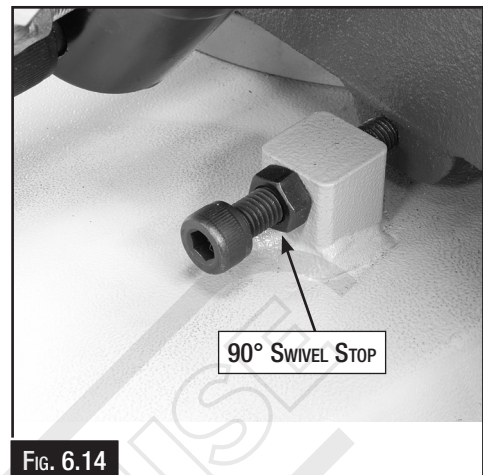

FIG. 6.14
4. Check that the "0" head stop is hard up against the pad (Fig. 6.14) and the stop screw, then loosen the lock nut and adjust the stop bolt until it rests against the pad.